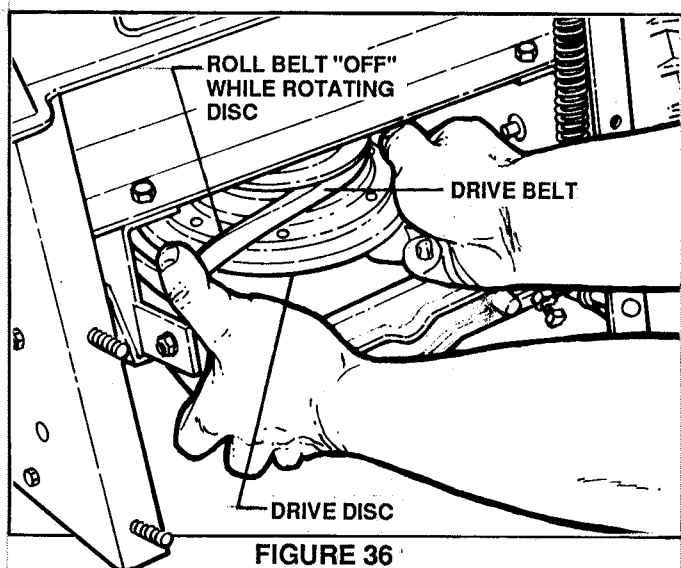

FIGURE 36
- Working at the rear of the tractor, rotate the DRIVE DISC while holding down on the DRIVE BELT until belt is clear of disc. See Figure 36.